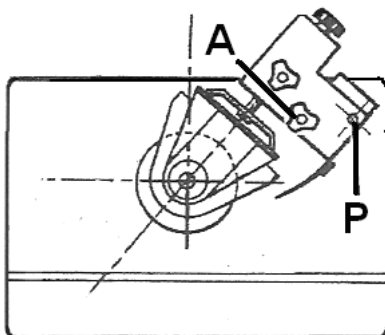

Fig 12
Install the curved guard body first. The machine table is therefore prepared with a M8 tapped hole (A, Fig 12) and an 8mm pinhole (P).